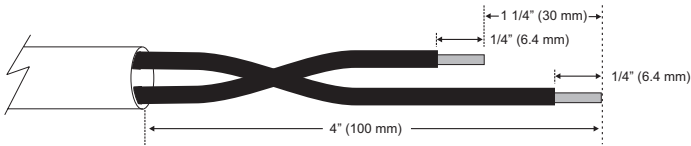

Figure 7. Strip the Sensor Cable
2. Strip the jacket and insulation from each cable as shown in figure 7. Trim the two conductors with the offset as shown.